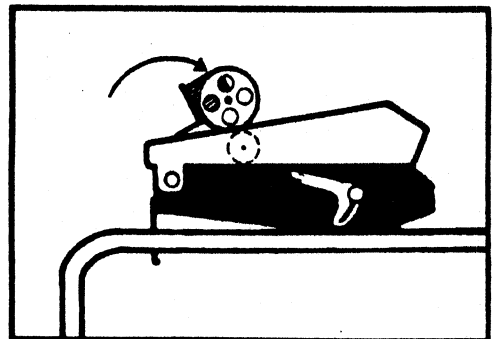

Figure 5
3. The Inchmeter wheel is placed against the Return Roller in the lid (Figure 5). As wallpaper is pulled through the Pasting Machine, the Inchmeter measures the length of the wallpaper. The Inchmeter may be moved to any position on the trough. Reset the Inchmeter to zero by pushing the lever.